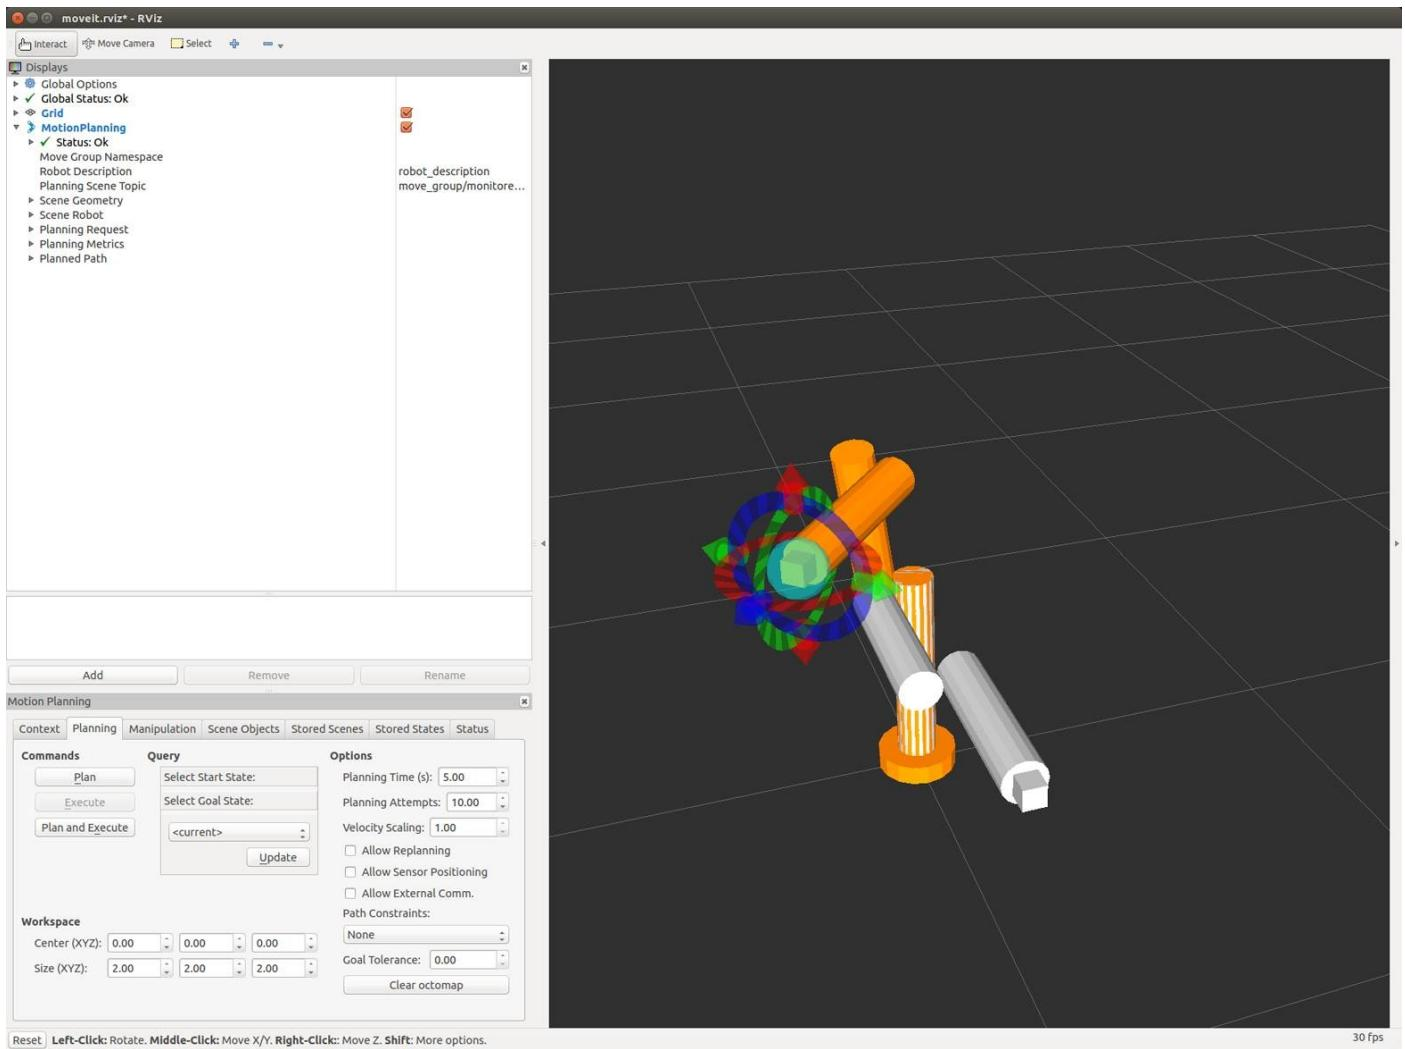

Figure 18-14. Using rviz to define a goal configuration
Click on Motion Planning → Planning. Now we’re ready to start playing with the robot. In the rviz window, the multicolored marker attached to the robot’s hand allows you to translate and rotate the hand in space. As you do that, the inverse kinematics (IK) solver is trying to find a configuration of the robot arm that will put the hand where you want it. The configuration that it finds will be visualized for your review, as shown in Figure 18-14.